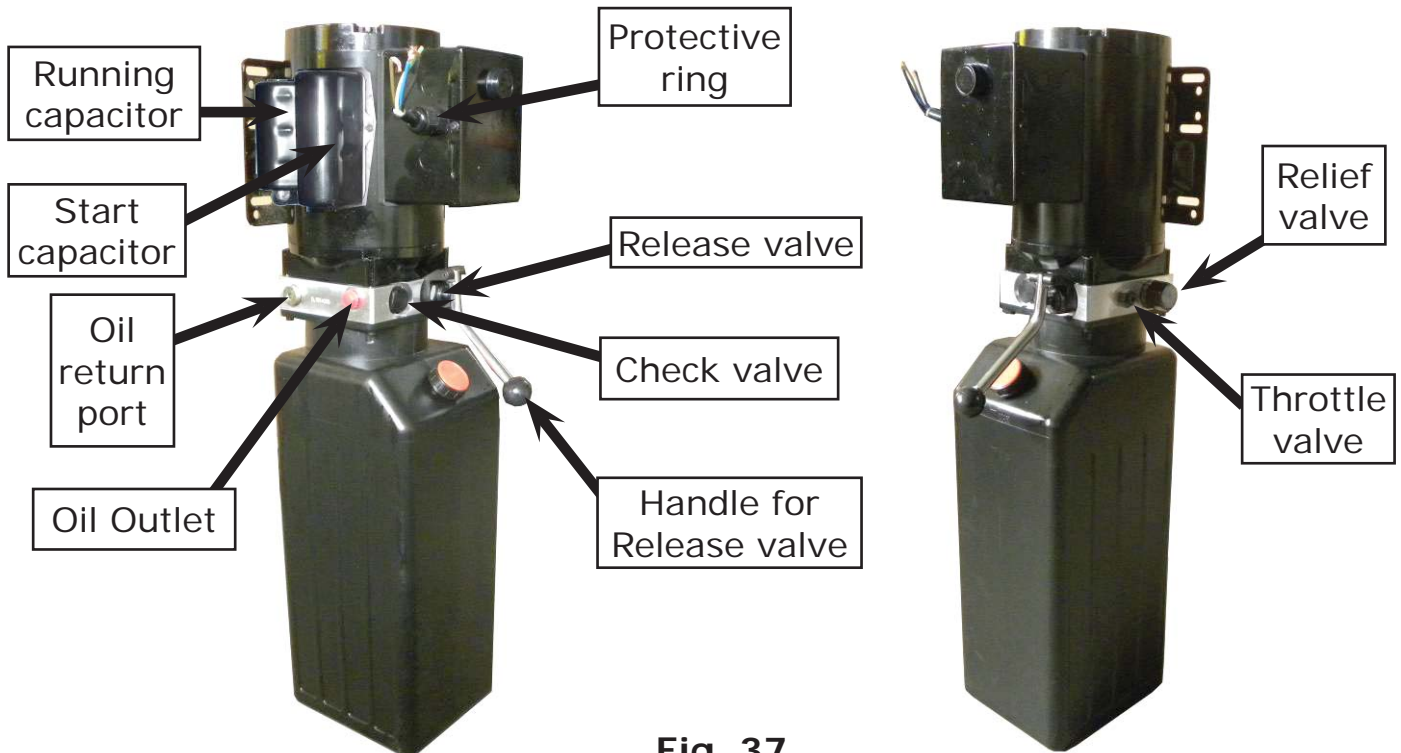

Fig. 37
b. ATLAS manual power unit, 220V/60HZ, Single Phase (See Fig. 37)